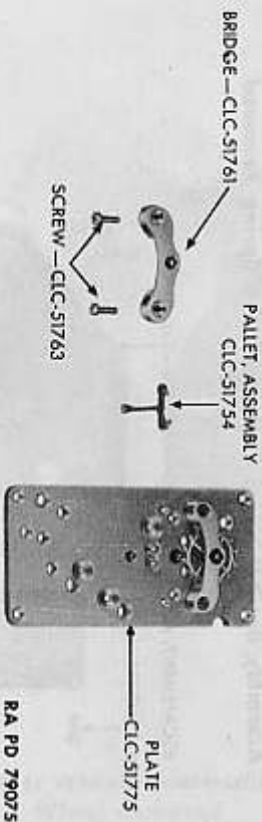

Figure 216 — Message Center Clock M1 — Pallet Bridge and Pallet Assembly Removed
p. Remove Pallet Bridge and Pallet Assembly. Remove two pallet bridge screws and lift off pallet bridge assembly. Remove two pallet assembly (fig. 216).
m. **Replace Pallet and Pallet-Bridge Assembly** (fig. 216). Replace pallet assembly. Place pallet bridge over the pallet assembly, aligning pivot of the pallet to its jewel. Secure bridge in place with screws. Check the action of the pallet.